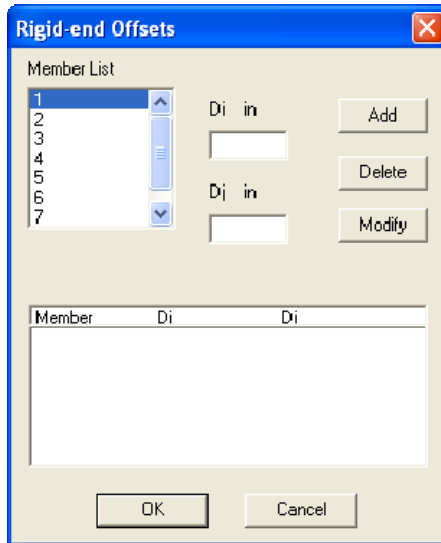

Figure 3-28 Rigid-end Offsets dialog box
- From the Process menu, select Rigid-end Offsets. The dialog box of Figure 3-28 appears.